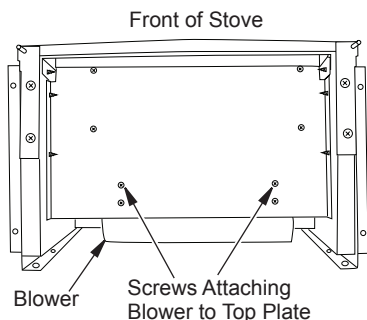

Figure 5 - Blower Screw Locations
3. Remove 4 screws from top plate to remove heater/blower assembly (see Figure 5).